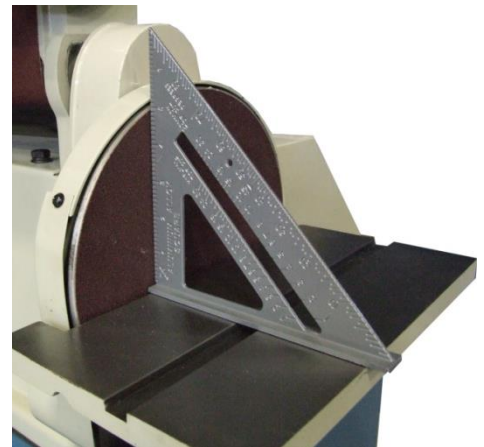

figure 15
3. Using a square against the table and disc, set the table at exactly 90° to the disc (See Figure 15).